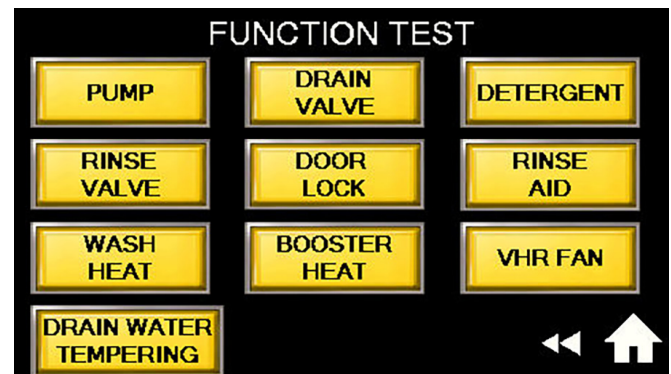

Fig. 68- Function Test menu
1. Press the Function Test button, (Fig. 68).